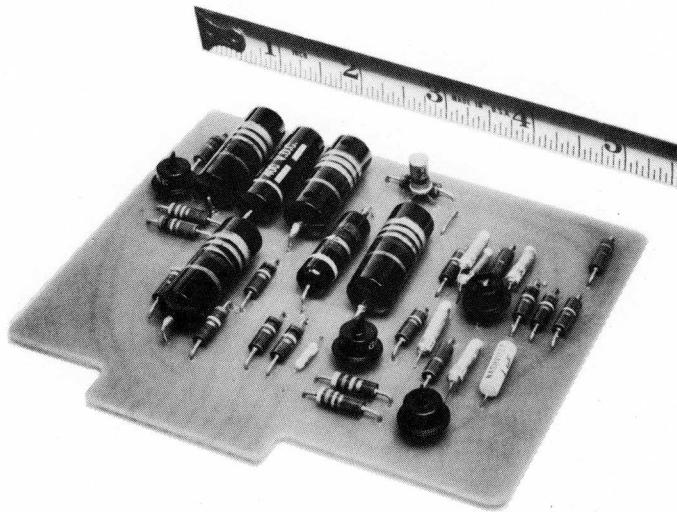

Fig. 2 - Entire Stabilizing Model 5001A AC Amplifier is one compact package.
1. Model 5001A AC amplifier (Fig. 2)